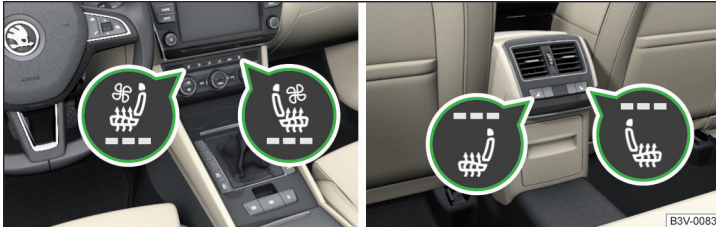

Fig. 85 Button arrangement: Heated front seats (and ventilation) / rear seat heating
**Buttons for the heating and ventilation** » Fig. 85